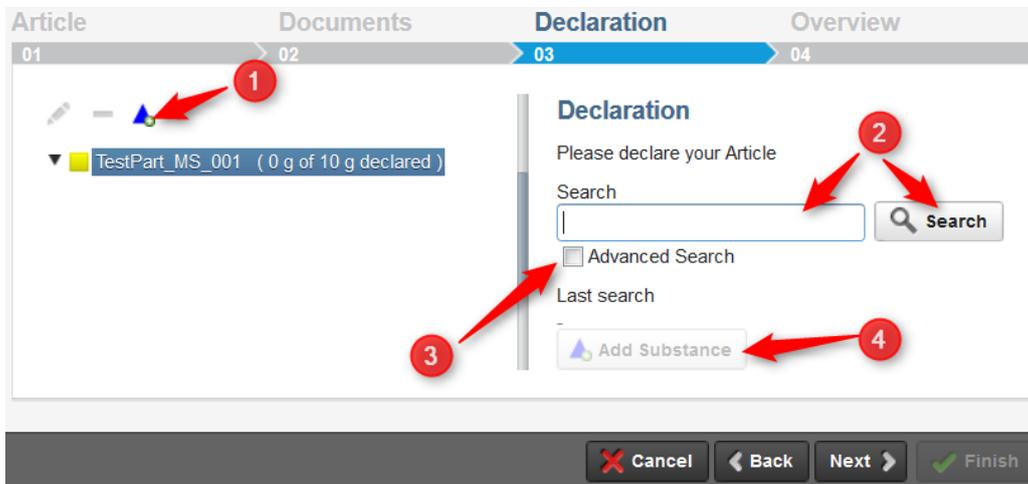
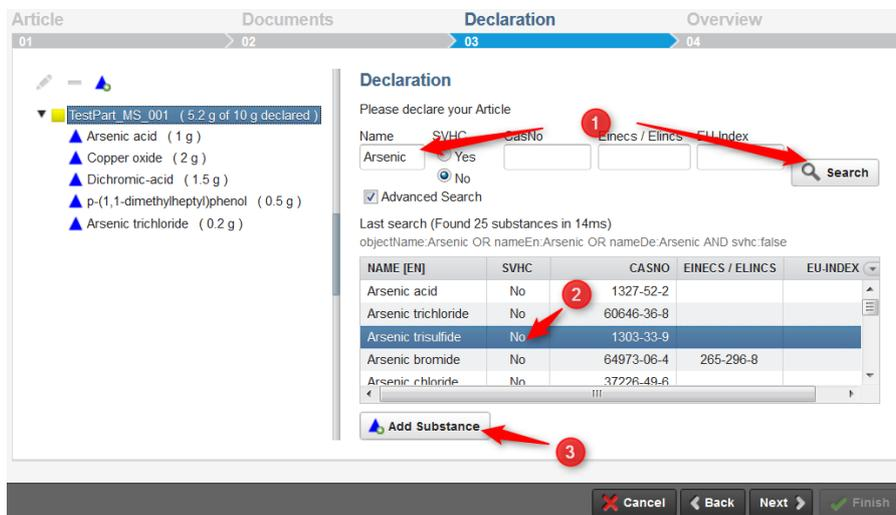

Figure 15: Options of substances entries
Figure 19: Searching and choosing of substances in the “Declaration-window”
There are two different options to define the substances which are to declare (see Figure 15).
Material specifications by clicking on the button in blue triangular shape (point 1 in Figure 15). Then another dialog box will open from which the declarable substances can be chosen from a database/table (Figure 16). The substances can be found by their substance name (in English and German). By clicking on the checkbox “Advanced Search” new search options will be activated (Figure 17). Possible advanced search options are:
Once a substance has been found (e.g. search by substance name – see Figure 17 point 1 and 2; to find a substance in a long list of different chemical compounds please move the scrollbar (3)). The substance will be marked with the left mouse button (point 4 in Figure 15) and added to the declaration list by clicking on the "Add" button (Point 5). Then a new window opens (Figure 18) where the amount (1) and unit (2) of the substance have to be entered. The substance can be defined as “confidential” (3). “Confidential” substances will be displayed only to authorized persons at the requester side. By clicking on “Apply” (4) the entries will be saved and the window closed. Further substances can be found and added the same way. If you have completed adding your substances, click on the “X” button to close the window.
Material specifications using the declaration and search section displayed on the right side of the window (see point 2 in Figure 15). This section has exactly the same properties as the separate window “Add substances” presented in Figure 16 und Figure 17. After searching (point 1 in Figure 19) and choosing a substance (point 2 in Figure 19) the button “Add Substance” shall be clicked (point 3 Figure 19). Then a new window opens (Figure 18) were the amount (1) and unit (2) of the substance have to be entered. The substance can be defined as “confidential” (3). “Confidential” substances will be displayed only to authorized persons at the requester side. By clicking on “Apply” (4) the entries will be saved and the window closed.